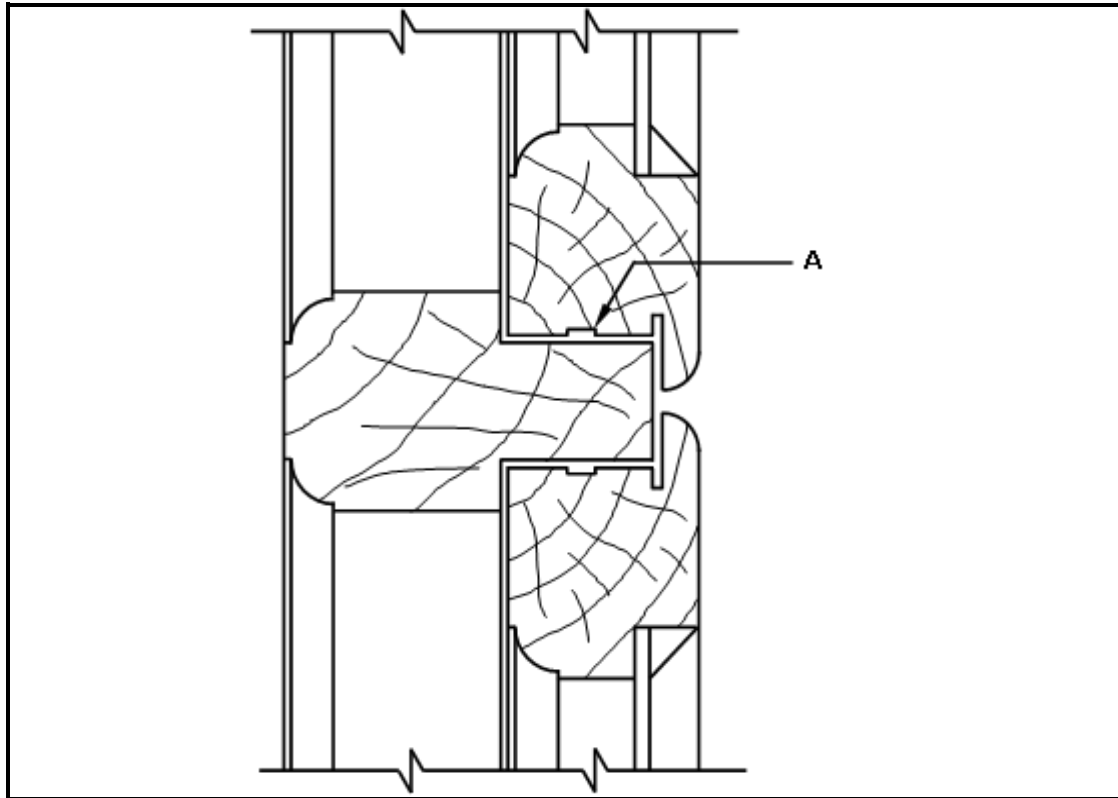

FIGURE 4.2
- 4.2 FIGURE 4.2 below shows a vertical section through a certain part of a double casement window with a fanlight. Study the picture and answer the questions that follow.